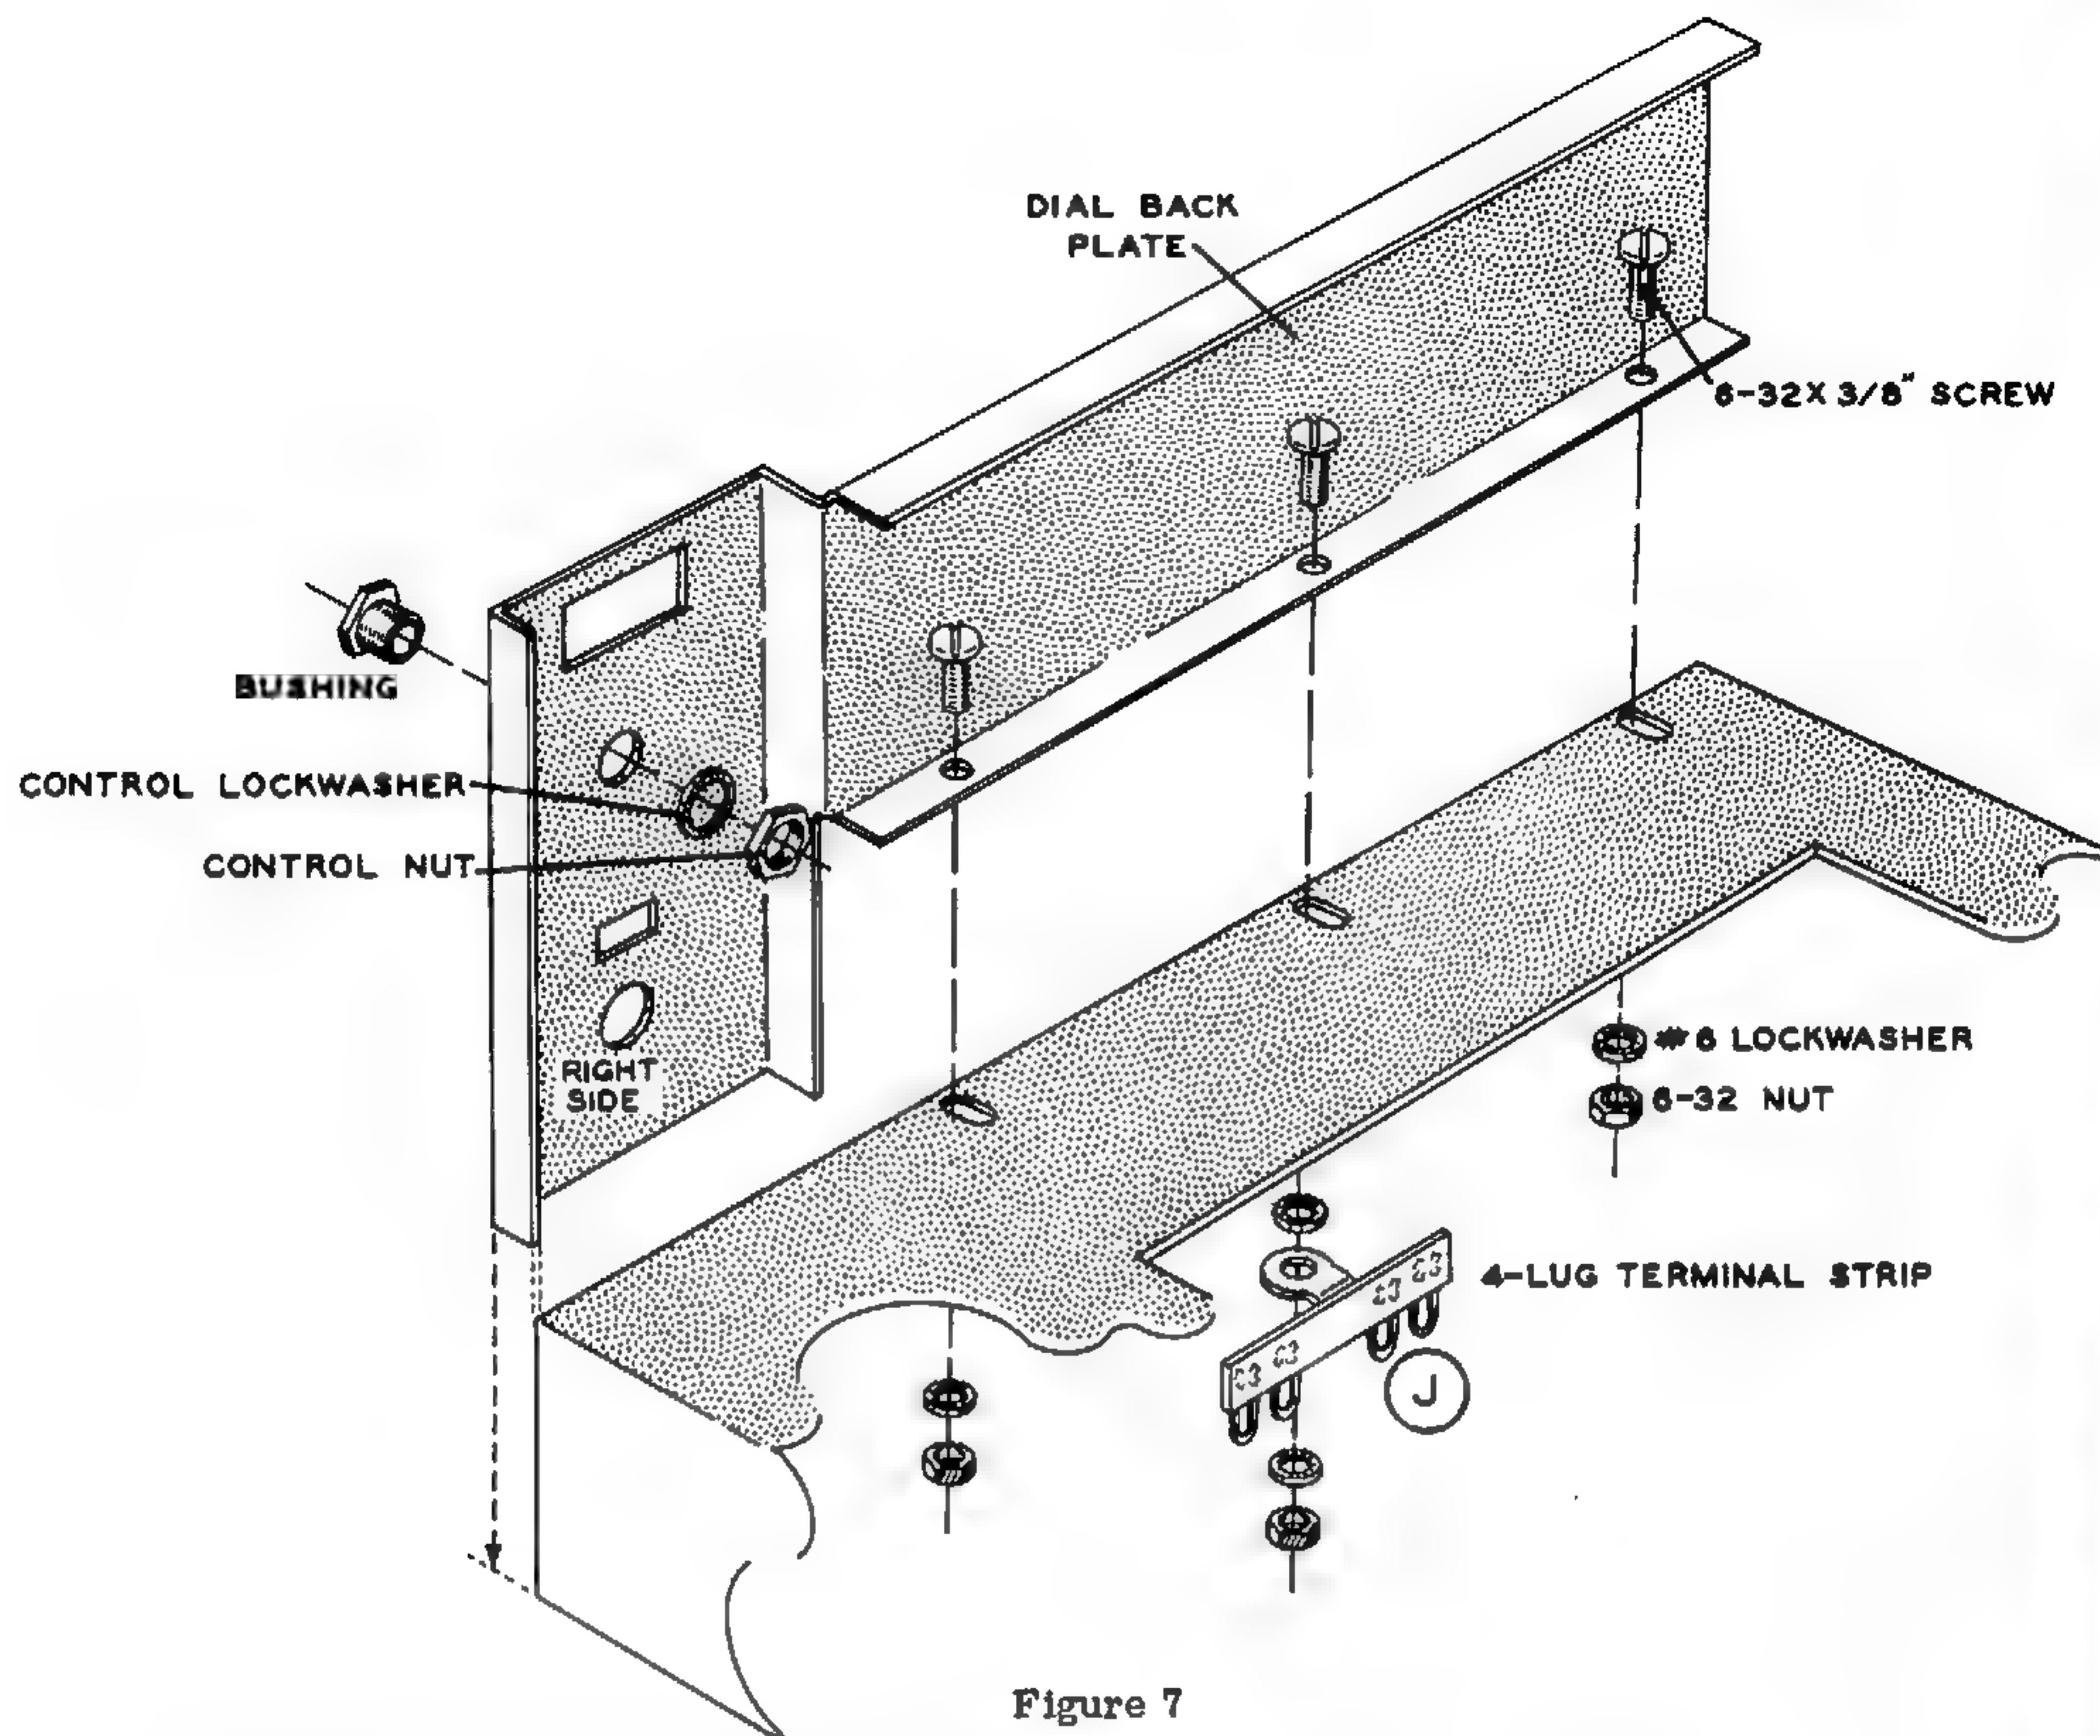

Figure 7
- (✓) Referring to Figure 7, install the dial back plate on top of the chassis and a 4-lug terminal strip under the chassis at J as shown. Use three 6-32 x 3/8" screws, four #6 lockwashers, and three 6-32 nuts. Be sure the right-hand end of this plate sets flush against the front of the chassis.